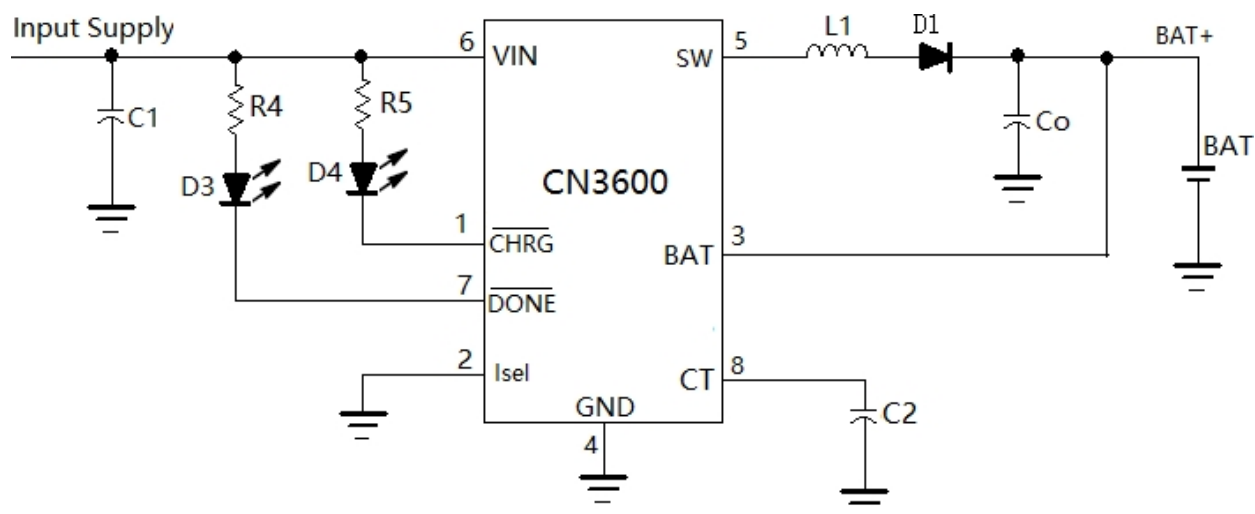

Figure 1 Typical Application Circuit
- C2 is the capacitance value of capacitor C2 in Figure 1 in farads.